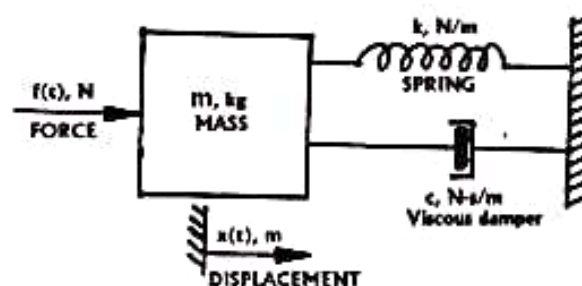

Fig.4.11.
**Q.4.4.** Find the transfer function of the following Spring-mass-damper as shown in Fig.4.11.